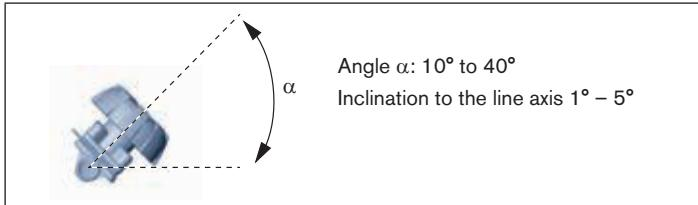
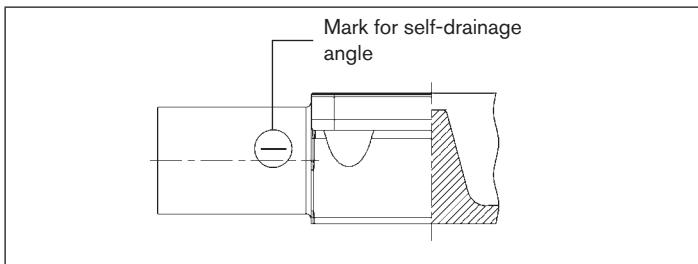

Fig. 5: Installation position for self-drainage of the body
Fig. 6: Mark for the correct installation position
- Install body inclined by angle $\alpha = 10^\circ$ to 40° to the horizontal (see Fig. 5). Forged and cast body feature a mark which must face upwards (12 o'clock position, see Fig. 6).